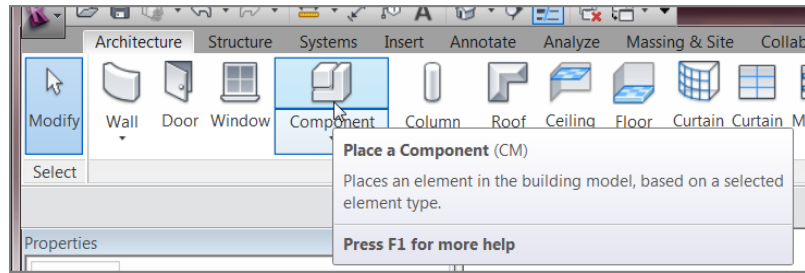

FIGURE 9.31: Click the Component button on the Architecture tab.
2. On the Architecture tab, click the Component button, as shown in Figure 9.31.